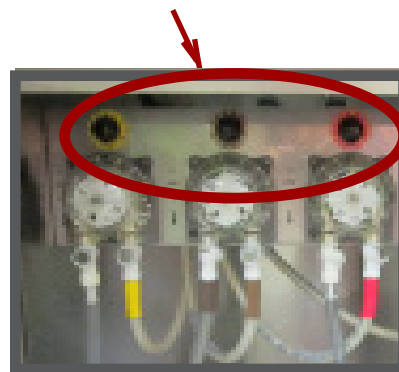

Figure 11-9
6. Open the cabinet door to allow access to the four flavor adjustment potentiometers located above the mix pumps. See figure 11-9.